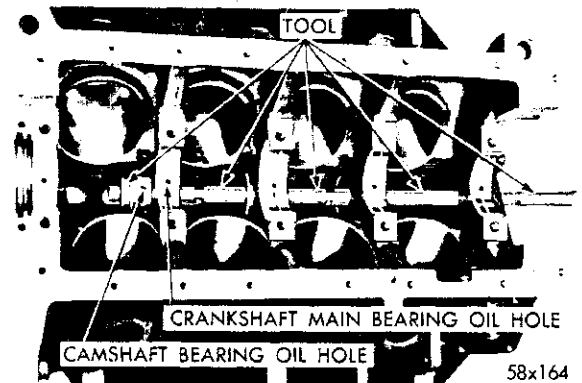

Fig. 39—Removing the Camshaft Bearing Using Tool C-3132A
- (1) Install the new camshaft bearings with Tool C-3132A. Place the new camshaft bearing over the proper adapter.
- (2) Position the bearing in the tool. Install the horse shoe lock and by reversing the removal procedure, carefully drive bearing into place, as shown in Figure 39.
- (3) Install the remaining bearings in like manner.
The oil holes in the camshaft bearings and the cylinder block must be in exact register to insure proper lubrication (Fig. 39).